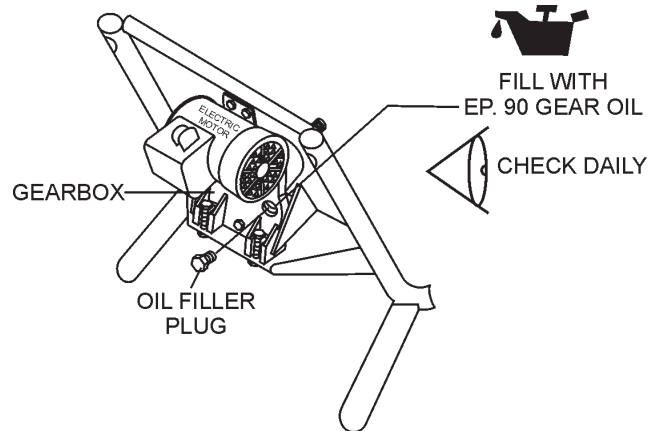

Figure 30. Gearbox Oil Level Check
4. Remove gearbox oil filler plug (Figure 30) and fill with EP90 or similar gear oil to the level of the filler plug. Replace gearbox oil every 3,000 hours. Gerabox oil capacity is **8-10 ounces**.